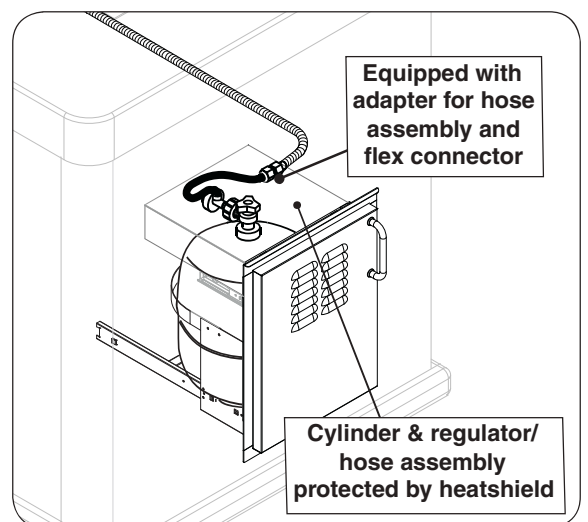

Fig. 9-3 Optional Fire Magic door w/ tank tray
- **Fire Magic offers a propane cylinder door with tank tray to meet the cylinder install requirements. See Fig. 9-3.**